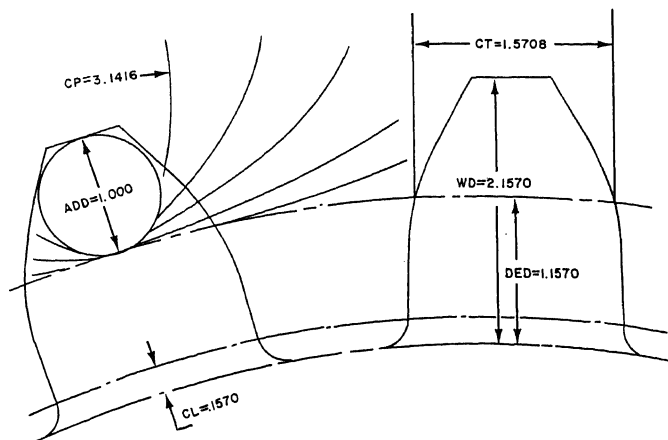

Figure AIII-1.—Tooth elements on a #1 diametral pitch gear.
1. TOOTH ELEMENTS based on a #1 diametral pitch gear (fig. AIII-1)